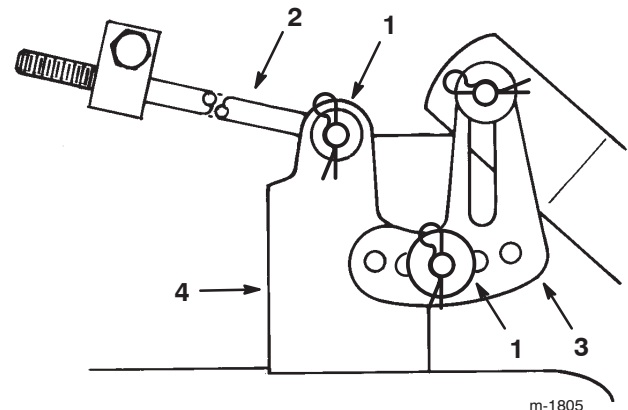

Figure 49
6. Remove the hairpin cotter and washer from the leveling bracket (Fig. 49). To level the blades, reposition the leveling bracket in a different hole and install the washer and hairpin cotter (Fig. 49). A front hole lowers the blade height and a rear hole raises its height. Repeat this procedure on the opposite side of the mower.